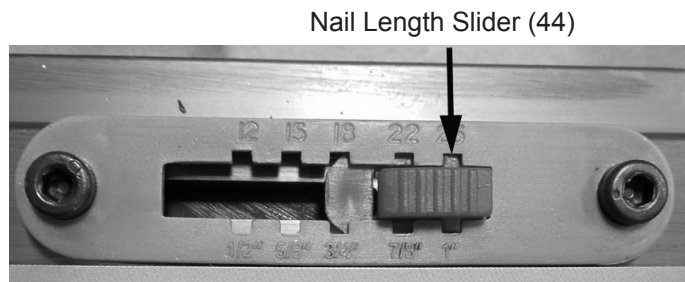

Figure 1
4. Slide the Nail Length Slider (44) to match the corresponding pin length (1/2", 5/8", 3/4", 7/8" or 1") of the fasteners loaded in the Nailer. See Figure 1, below, which shows 1" pin length setting.